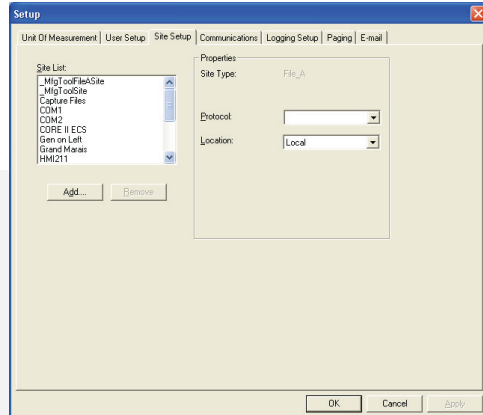

FIGURE 2-33. SITE SETUP
1. If the initial setup has not been completed, go to **Start** -> **All Programs** -> **Power Generation** -> **Setup** and navigate to the Setup dialog. If the initial setup has been completed, start the PCW program on go to **Tools** -> **Setup** from the menu bar and then click on the Site Setup tab (see Figure 2-33).